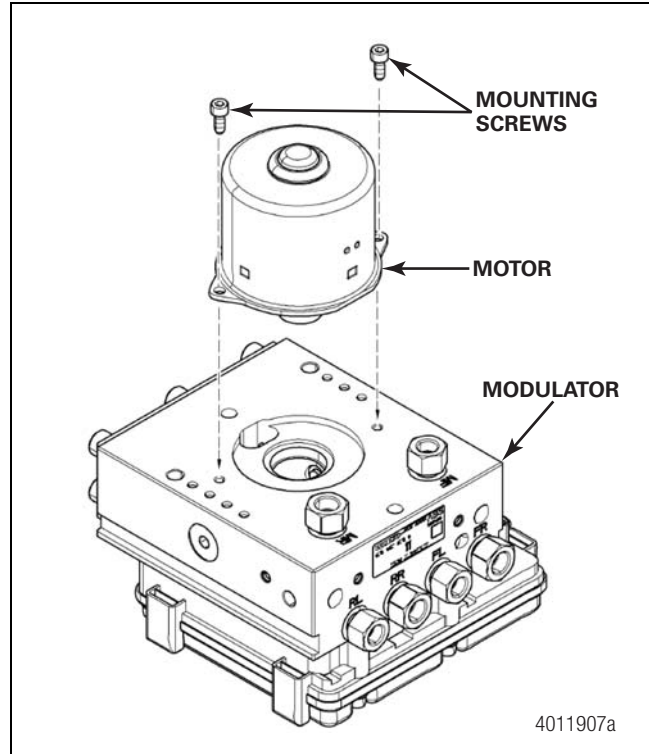

Figure 3.4
2. Remove the two motor mounting screws. Figure 3.4.